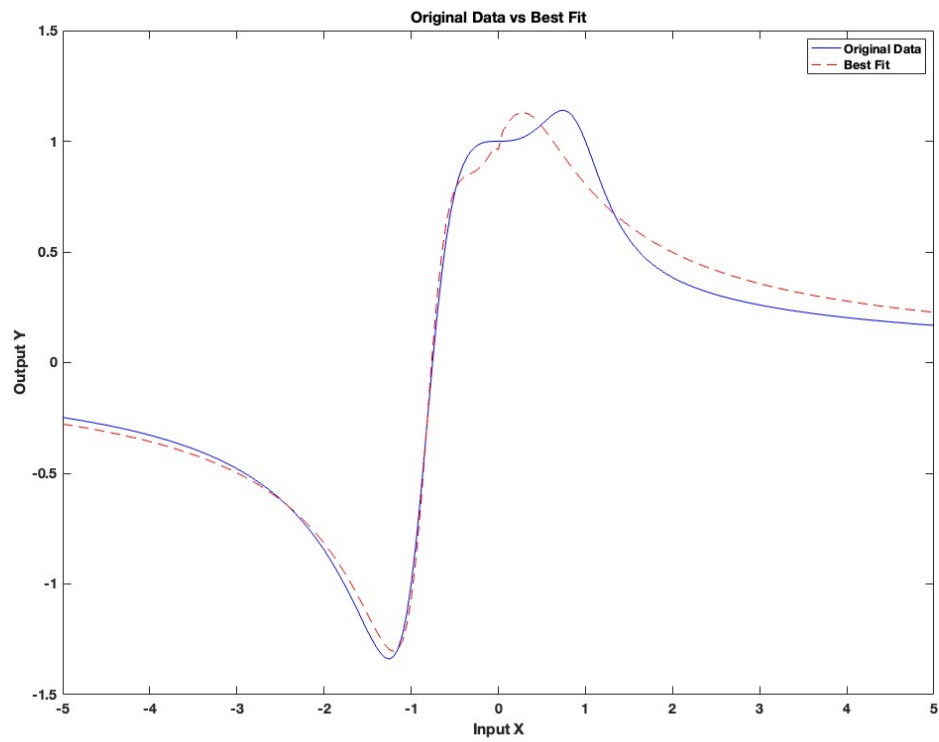

Figure 6: Original data (blue line) with best fit function  $g(x)$  (red line)
**Figure 6** shows the curves of original data(blue) and the best fit function (red) :